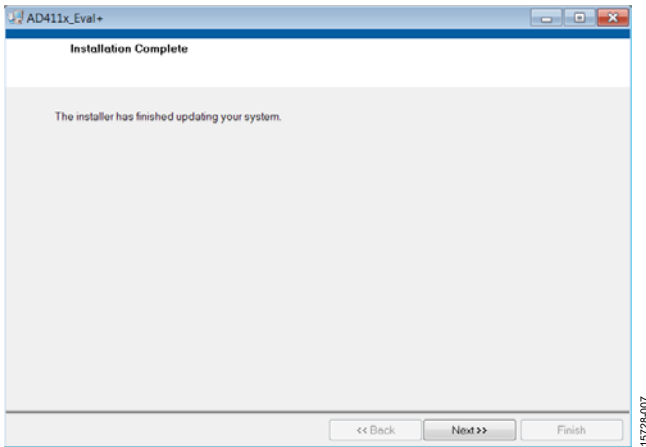

Figure 8. **AD411x Eval+ Software Installation: Indicating When the Installation Is Complete**
7. The message in Figure 8 appears when the installation is complete. Click **Next**.